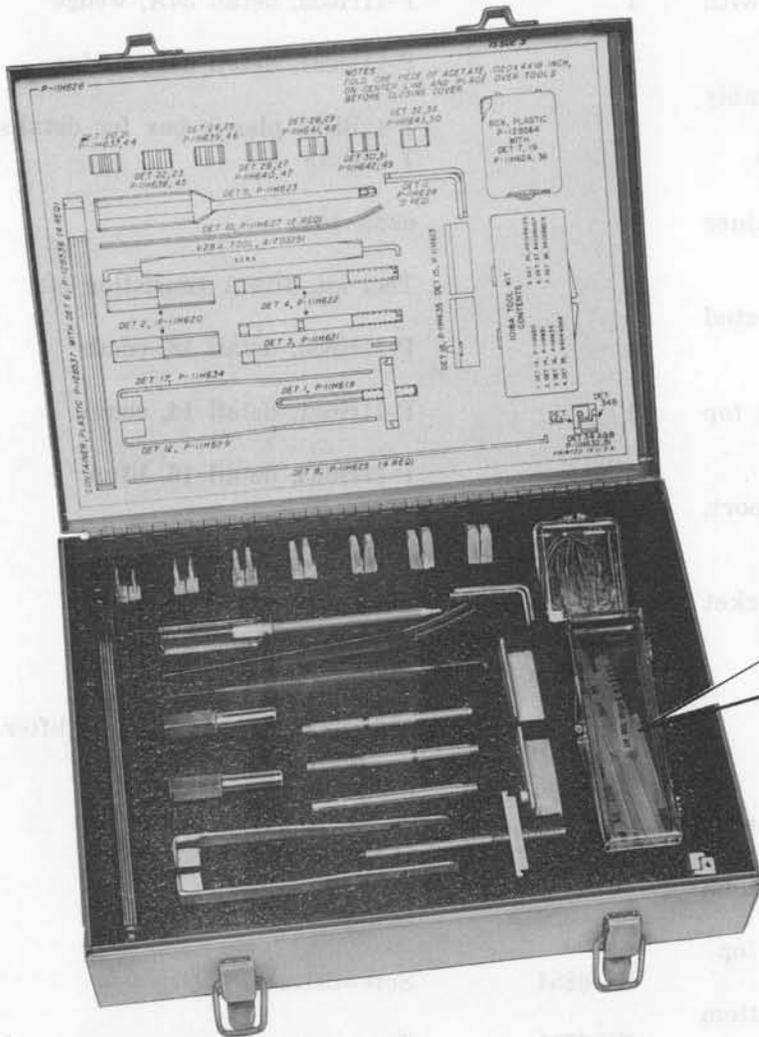

Fig. 3—1017A Tool Kit Including 1018A Tool Kit
4.01 Figure 3 shows the tools comprising the 1017A and 1018A tool kits.